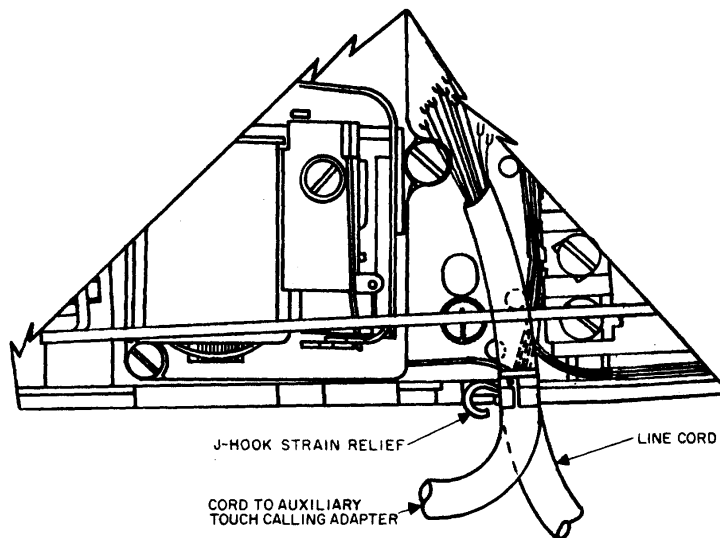

Figure 10. Routing and Securing Cord from Auxiliary Touch Calling Adapter to Type 182A and 192A Telephones.
- (a) Route and secure the adapter's cord to the Type 182A and 192A Telephone Sets as shown in Figure 10.